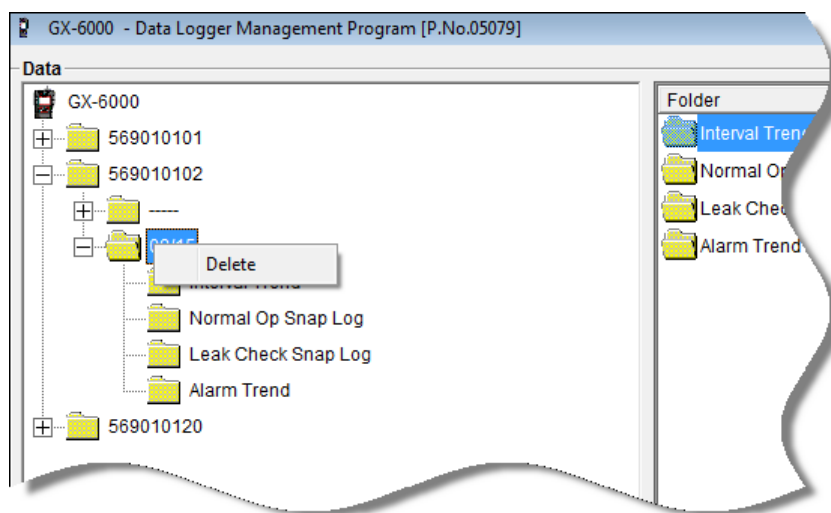

Figure 52: Delete Box
- When the password has been entered and **Continue** clicked, the Delete Data Window (if a folder is selected for deletion) or Delete Sample Window (if a file is selected for deletion) will appear asking you to confirm that you want to delete the selected folder or file. In the example below, the Delete Data Window appears because the data folder shown in Figure 52 has been selected for deletion.